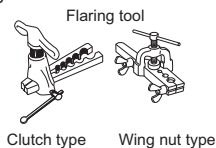

Fig. 4
- Insert the drain hose fully into the drain pan at the rear right of the indoor unit. (Fig. 4)
- Insert the drain hose into wall hole sleeve (C), and hook the upper part of indoor unit on installation plate (1). Then, move the indoor unit completely to the left in order to make placing the piping in the back space of the unit easier.
- Flaring work (Fig. 4, 5). Firmly hold copper pipe in the dimension shown in the table according to the tool you use.